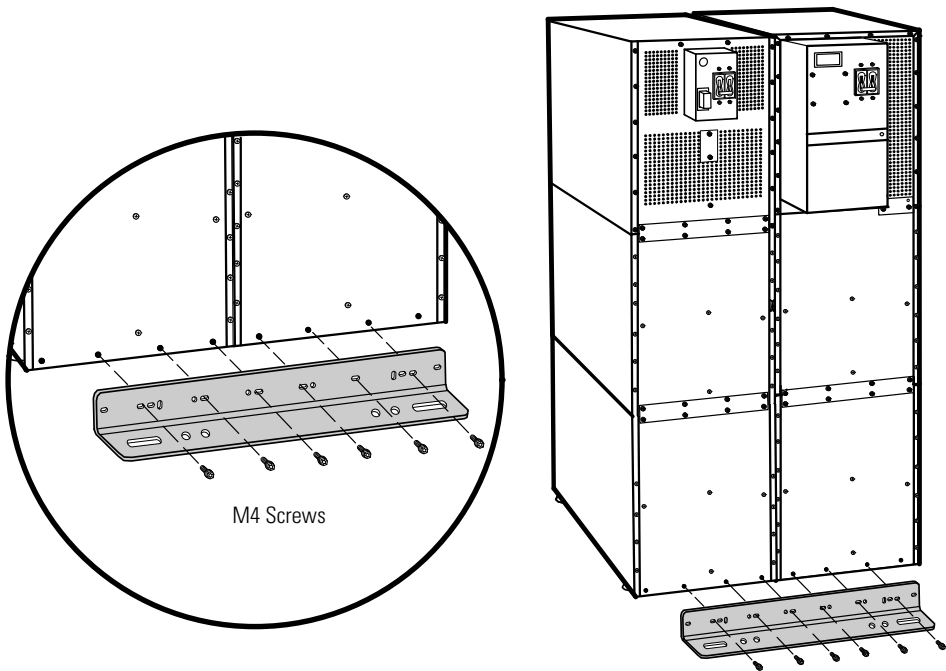

Figure 32. Stabilizing Bracket with Two Cabinets
- For two cabinets, see Figure 32.